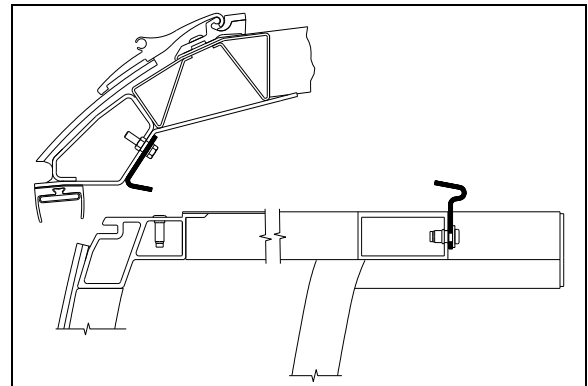

FIGURE 37: ROOM 2" INSIDE – UPPER SECTION VIEW
Do not retract slide-out room too far in. Retract just past the wiper seal. (Figure 37)
4. Using the manual override procedure (paragraph 18), move the slide-out 2" inside the vehicle, just so the seal becomes accessible from the outside (Figure 37).
5. Once completed, use the manual override procedure to extend the slide-out to reinstall the exterior extrusion. Apply appropriate sealant on the exterior extrusion screws and between the extrusion, the roof and the edges to prevent water infiltration (Figure 37).